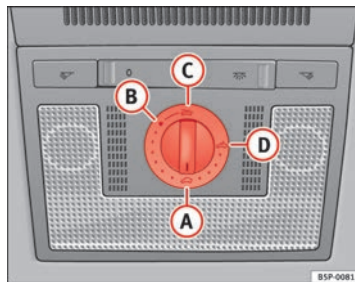

Fig. 70 Roof lining description: sliding/tilting sunroof rotary knob ▶
- Turn the rotary button to position **A** ⇒ fig. 70 ⇒ .